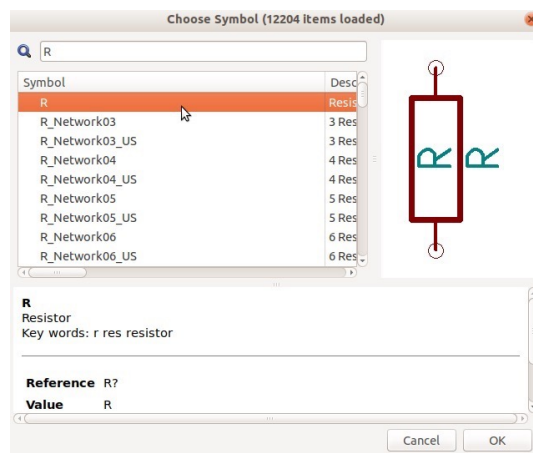

Figure 23.2: Testing local symbols.
13. In the Choose Symbol window, expand the tree and click on any item. For each item you click on, you should see the symbol in the right pane (Figure 23.2).